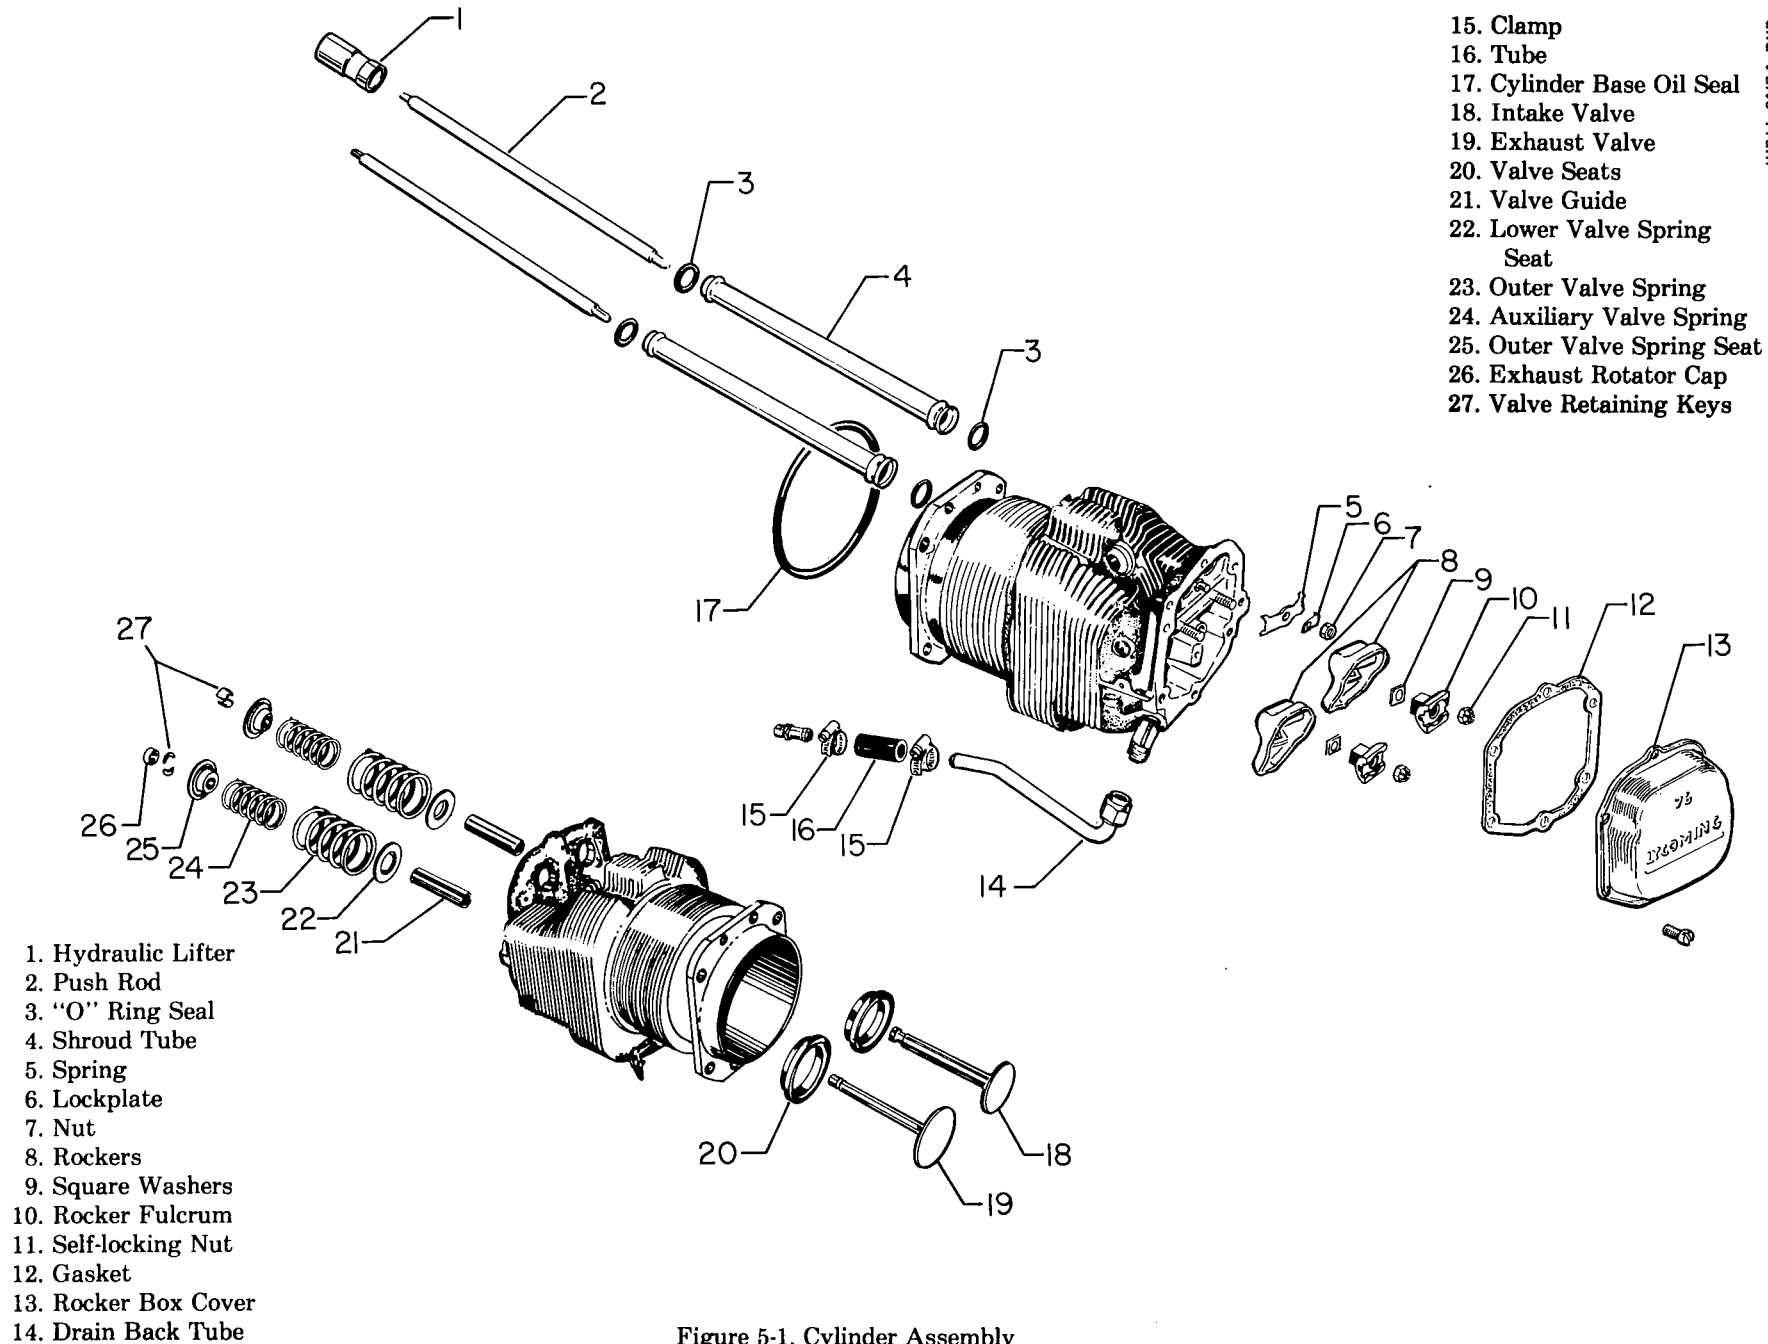

Figure 5-1. Cylinder Assembly
5-8. *Cylinder.* See figure 5-1. Remove the rocker box cover (13) and gaskets (12). Rotate the crankshaft to place the